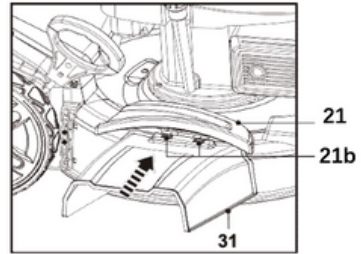

Fig. 19
4. Align and hook the holes (31a) of the side discharge chute (31) onto the hooks (21b) (Fig. 19).